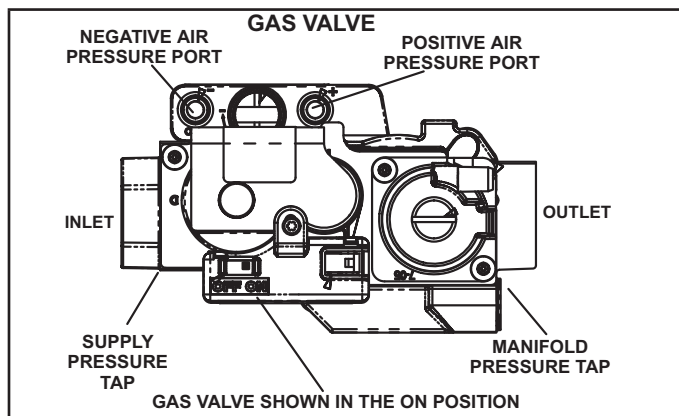

Figure 62
Gas Valve Operation (Figure 62)
- 6 - Move gas valve switch to OFF. See figure 62.
- 8 - Move gas valve switch to ON. See figure 62.